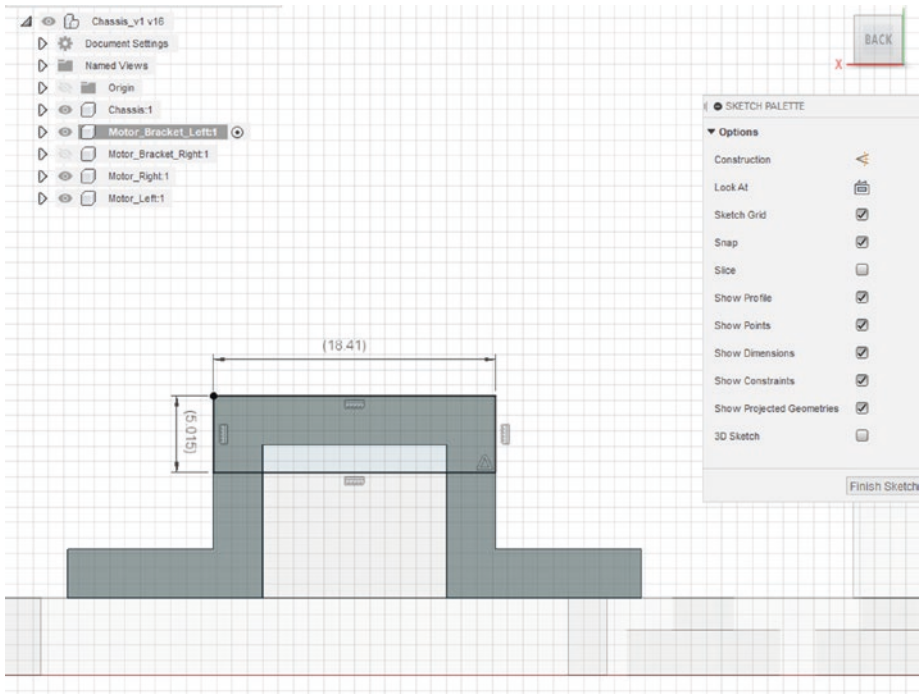

Figure 6-64. Create the front stop rectangle for the motor bracket
30. We need something to hold the motor in the bracket from the front, so make a rectangle on the front of the bracket. See Figure 6-64.